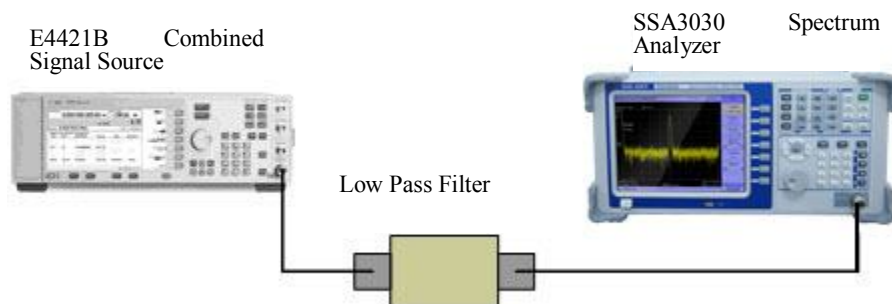

Fig. 6-8 Test Connection Diagram of Second Harmonic Distortion
The testing block diagram is shown in Fig. 6-8.
- (1) Connect the equipment as shown in Fig. 6-8.
- (2) Reset the combined signal generator and set its frequency of 45MHz and its power of -40dBm.
- (3) Reset SSA3030 and set it as follows:
- (4) Adjust the signal power of combined signal generator and display the signal peak at the first lattice on the screen.